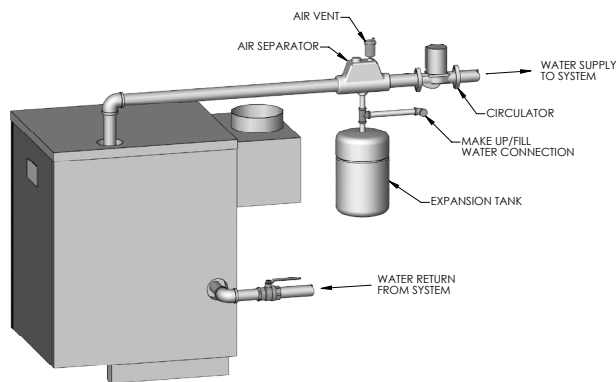

Figure 4.1
2. Figure 4.1 shows typical supply and return piping for a boiler system. If the system expansion tank is located on the boiler loop, it should be located on the supply side of the boiler with the system circulator pumping away from the expansion tank connection.